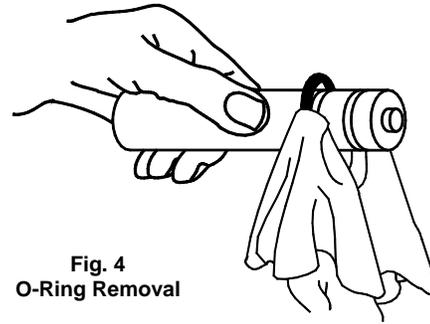

Fig. 4
- d. Remove the spigot plunger o-rings from the spigot plunger (Fig. 4). Check for wear, replace if worn or raked.